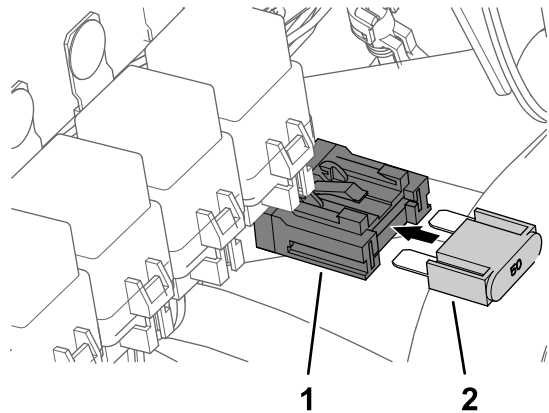

Figure 192
7. Insert the fuse (50 A) into inline-fuse block until the fuse is fully seated (Figure 192).